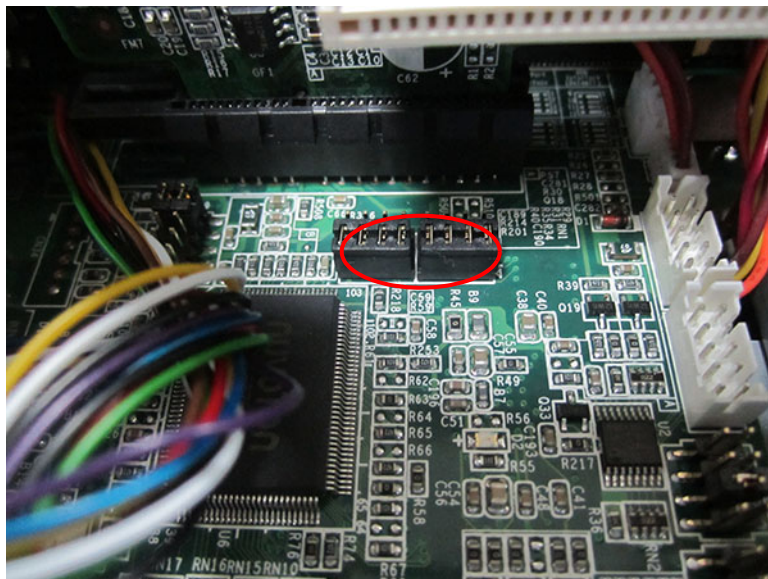

Figure 3.6
2. Configure the external port as COM port. (See Fig 3.6)
- a. Configure JP1 and JP2 as shown in Fig 3.6. (This configuration will change touchscreen's control source as USB, and the system needs to reinstall touchscreen driver.)